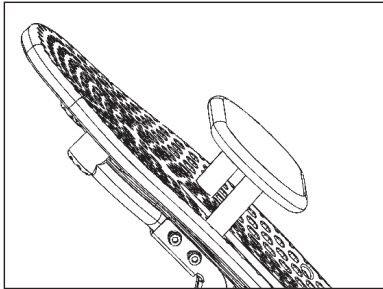

Figure 14
- Attach the Head Pillow by securing the Velcro straps through the holes in the Table Bed – the position of the pillow can be adjusted depending on the user (Figure 14).